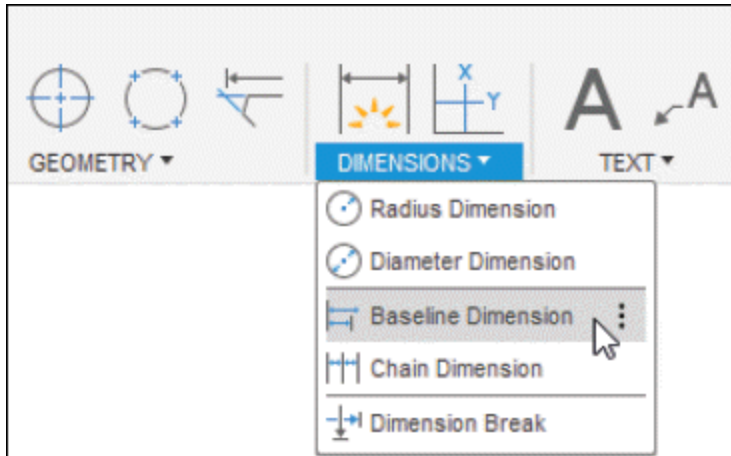

Figure-65. Baseline Dimension tool
- Click on the **Baseline Dimension** tool from the **DIMENSIONS** panel of the **Toolbar**; refer to Figure-65, and select one of the leg of base dimension.